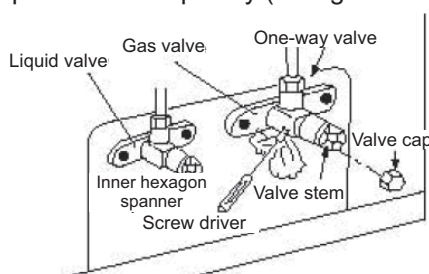

Figure 3-1-4
- (2). Vacuuming and leak test.
- ◆ Open stem of gas valve and liquid valve completely ( as figure 3-1-4)